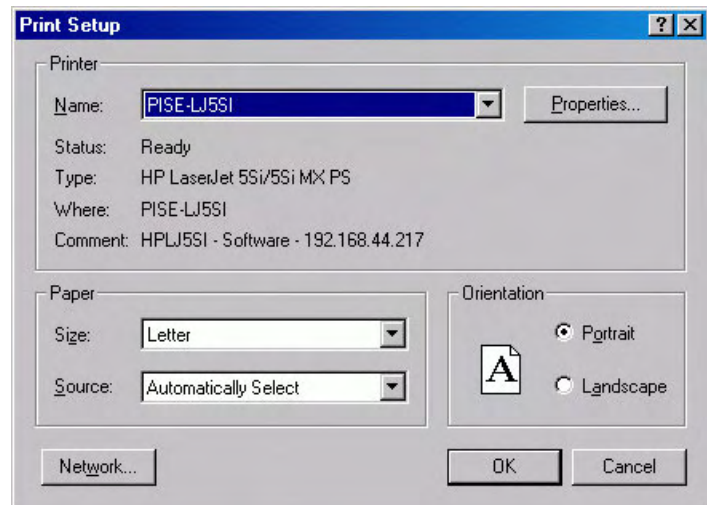

Figure 117. Print Setup dialog box
1. Open the file you want to print. Make sure that window is the active one. From the File menu, open the Print Setup dialog box (Figure 117).